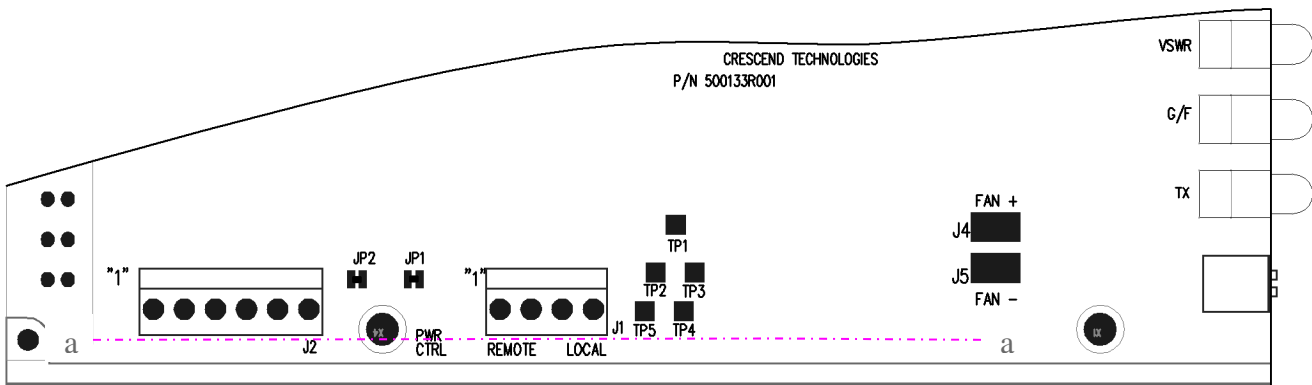

Fig. 3
There are two jumpers (JP1, JP2) in the board – see Fig. 3. When JP1 is cut, “G/F” alarm LED at the front panel is disconnected. When JP2 is cut, both “TX” and “VSWR” LED are disconnected.
- DC cables, going to DC Connector Board Assembly are behind the line a---a in Fig. 3;